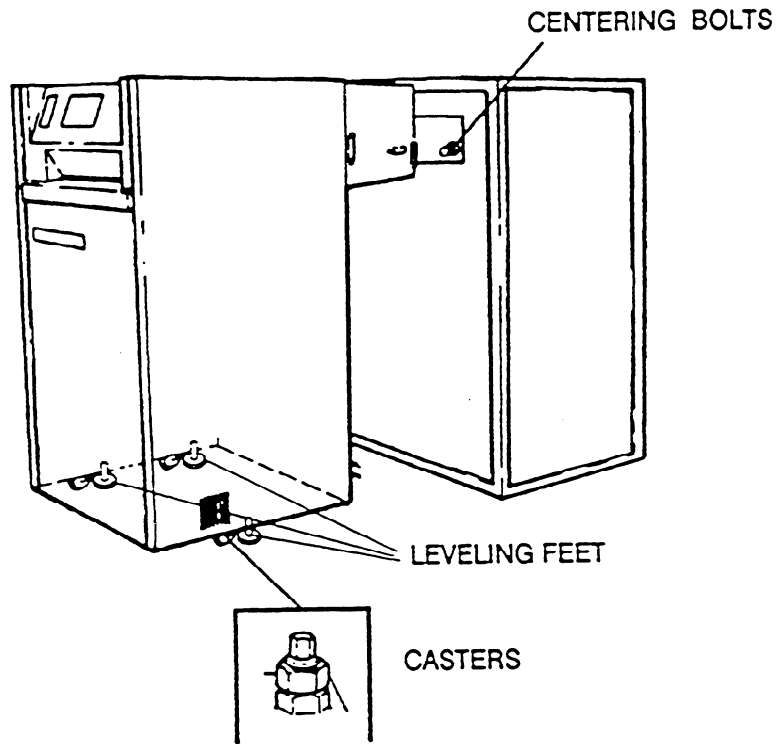

figure 14
3. Move ML 700 close to the PROCESSOR. Adjust CASTERS (level the ML 700) on ML 700 to align holes in TUNNEL with the CENTERING BOLTS in the PROCESSOR. Use WRENCH 30 mm for LOCKNUTS (see fig. 14).